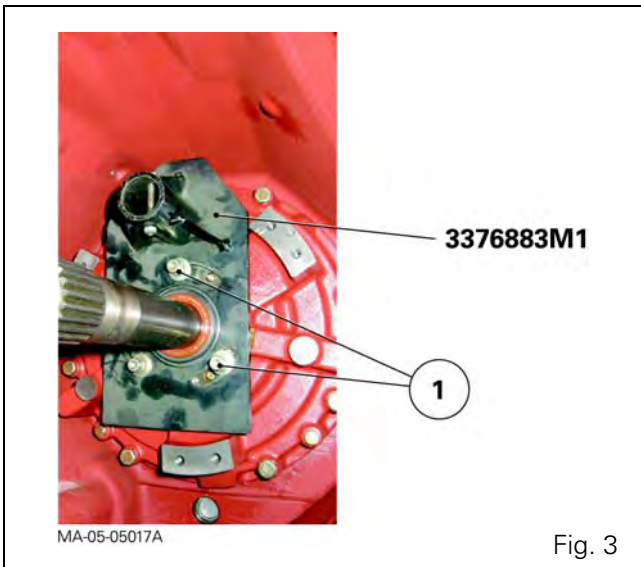

Fig. 3
7. Attach tool ref. 3376883M1 to the front cover plate of the input unit (Fig. 3).
IMPORTANT: To attach the tool to the front cover plate of the input unit correctly, use locally obtained screws (1) (Fig. 3) that are long enough and of suitable strength.